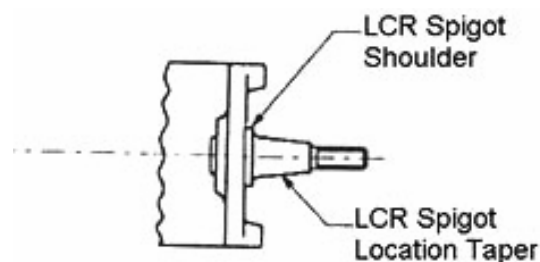

Figure 5: View of Typical Frame End Spigot
- Check that Datum line E is within 0.5mm of the centre lines of the LCR spigots. The LCR spigot location tapers shall be used to define their centre lines (see Figure 5).